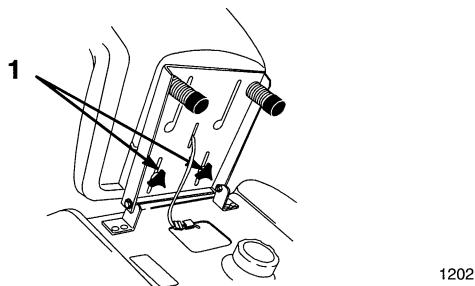

Figure 10
1. Raise the seat and loosen the adjustment knobs (Fig. 10).